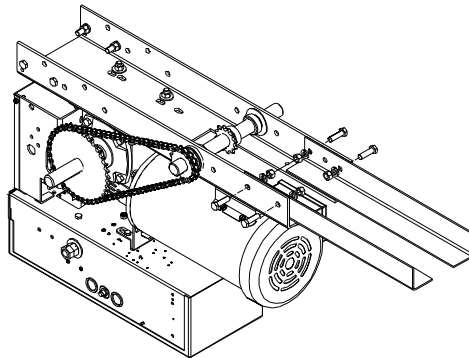

Figure 3 Assembling operator and tracks
1. Bolt the tracks to the operator using bolts provided (Figure 3).